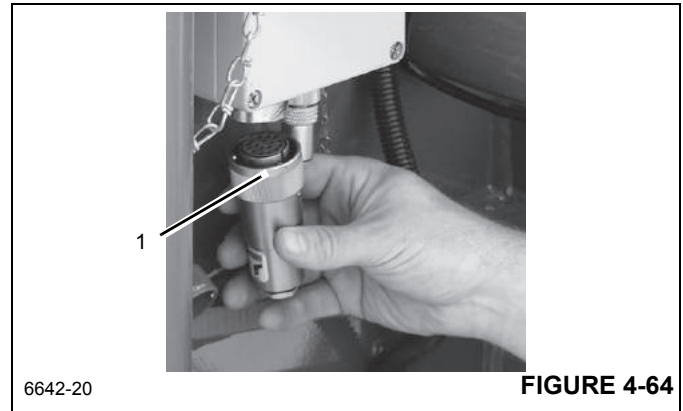

FIGURE 4-64
- Remove dummy plug (1) Figure 4-64 from junction box on boom nose.